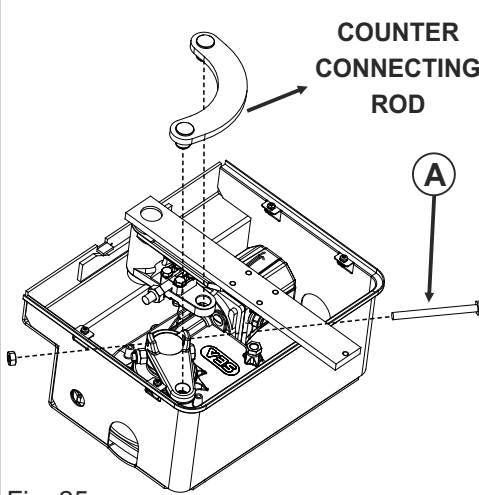

Fig. 25
5.2. Insert the screw «A» as indicated and fix it with the respective nut; furthermore fix the pins of the counter-connecting rod in the appropriate holes (adequately greased) on the rod support and on the operator crank, as shown in Fig. 22 or Fig 25;